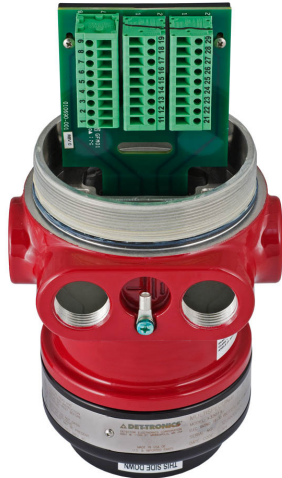

Figure 4—Detector Terminal Block
1. Make field connections following local ordinances and guidelines in this manual. Refer to Figures 4 through 13.